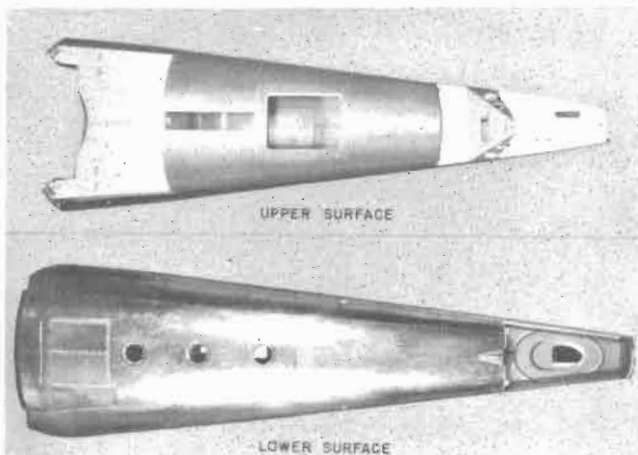

Figure 102 — Metal Monocoque
c. REAR FUSELAGE SECTION.—(See figures 102 and 103.)
(1) The rear section of the fuselage is of all-metal, semi-monocoque construction, consisting of 24ST Alclad longerons, 24SO Alclad bulkheads and 24ST aluminum-alloy stringers, covered with 24ST Alclad sheet. The rear section is provided with drainage facilities through drain holes in the bottom of each bulkhead. The four longerons extend the entire length of the rear fuselage structure, form the upper and lower points of attachment to the front fuselage section, and are designed to resist the main bending loads to which the airplane is subjected. Some of the later airplanes have been equipped with wooden rear fuselage assemblies which conform in general over-all dimensions, contours,